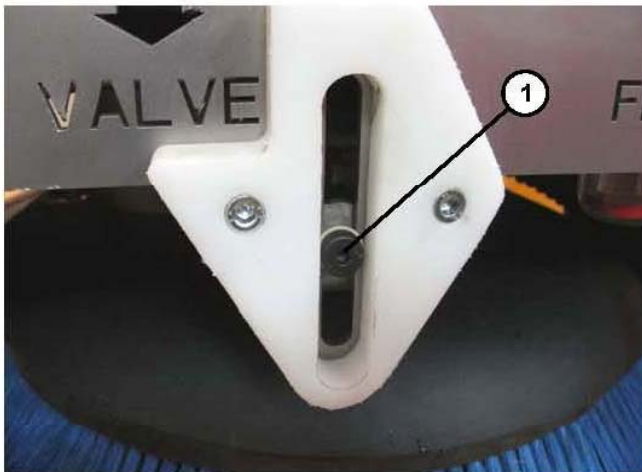

Figure 7-4
6. Operating on both sides of the machine, unscrew the (1, **Figure 7-4**).